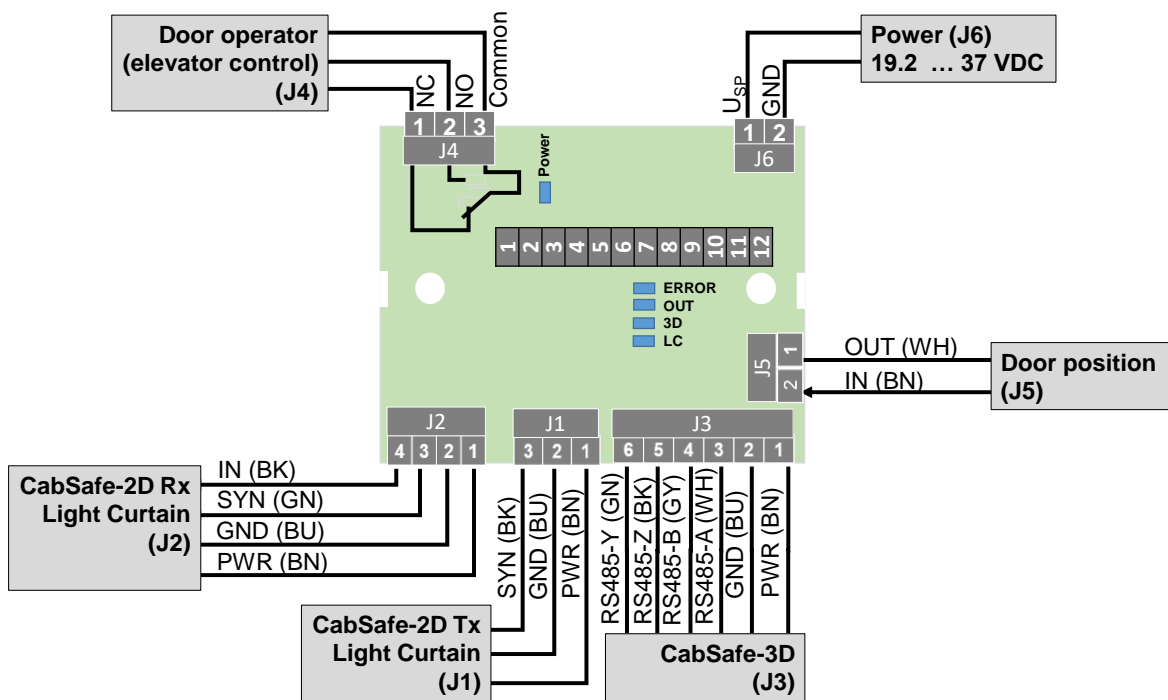
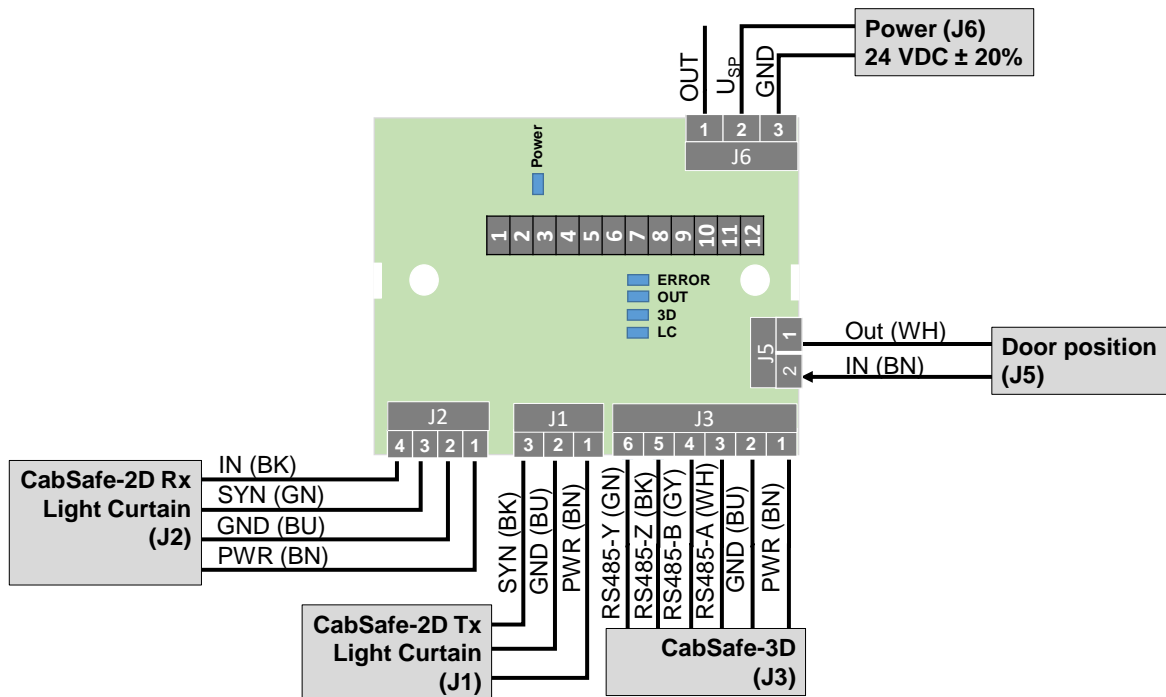
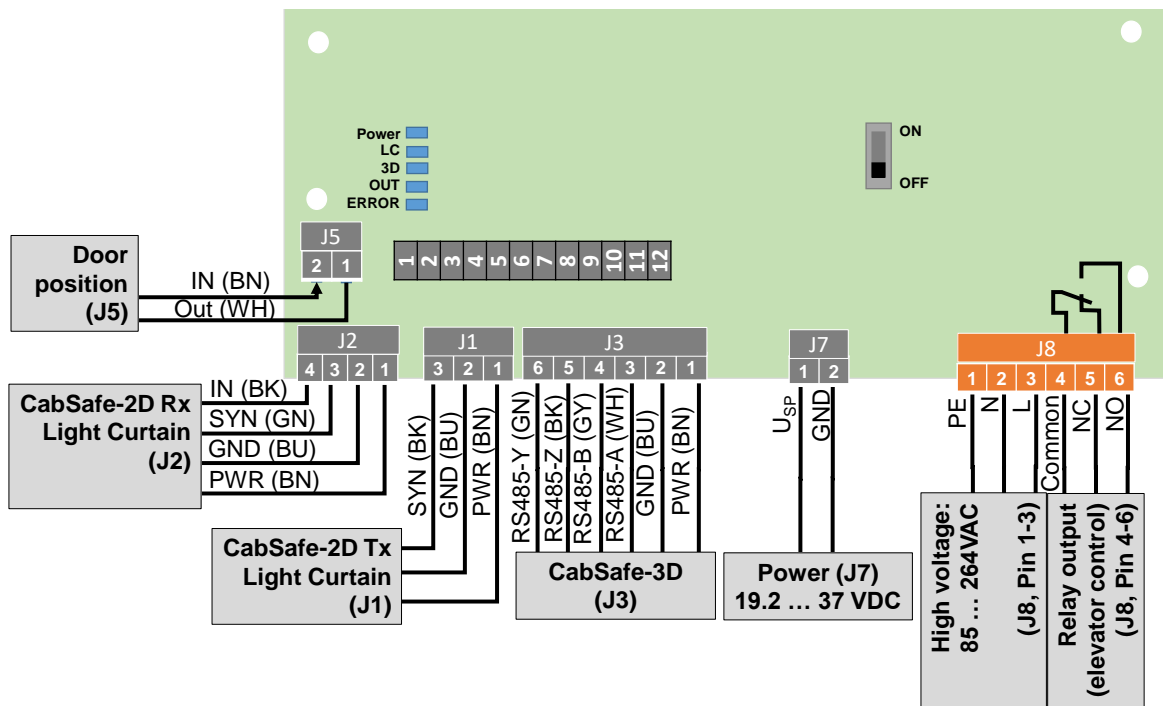

Figure 5: Electrical connections CabSafe Controller 100 with relay output
Figure 6: Electrical connections CabSafe Controller 100 with push pull output
Figure 7: Electrical connections CabSafe Controller 200 with relay output
The configuration of the CabSafe-System is managed by settings of twelve (12) DIP switches. The location of the switches is shown in Figure 5, Figure 6 and Figure 7. The switches are described further in the tables that follow.
In addition to the DIP-switches (chapter 5.9), the CabSafe Controller 200 has a separate switch to turn the buzzer functionality on and off (see Figure 7).